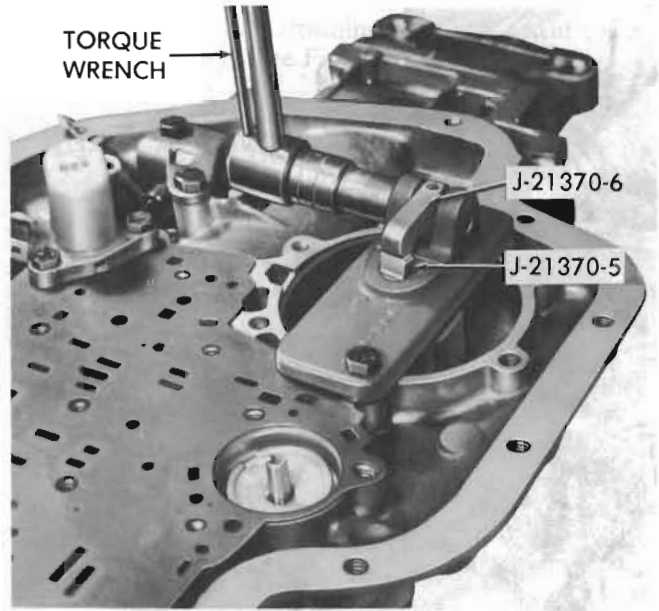

Figure 76-67
b. Apply 25 lb.ft. torque and select proper pin to be used during assembly of transmission. See Figure 76-67.